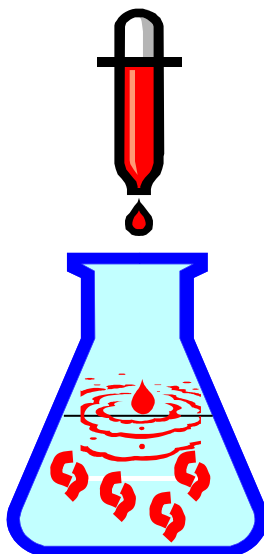

Figure 2, Untreated Water
1. A sample of Fort Wayne city water was collected in beaker one. See figure 2.